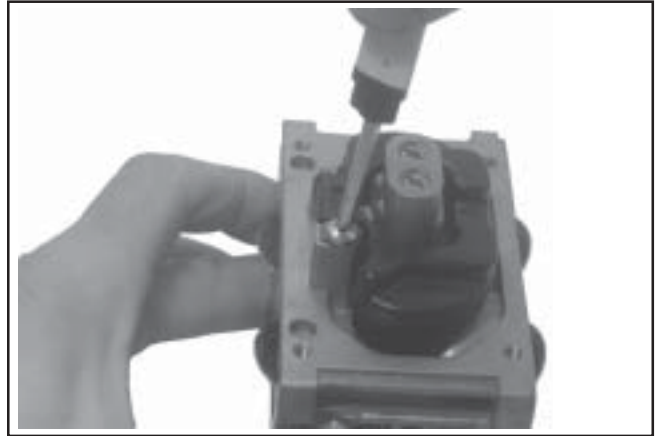

Figure 5-19. Installing Float Assembly.
6. Install the float and inlet needle down into the seat and carburetor body. Install the new pivot pin through the float hinge and secure with the new retaining screw. See Figure 5-19.